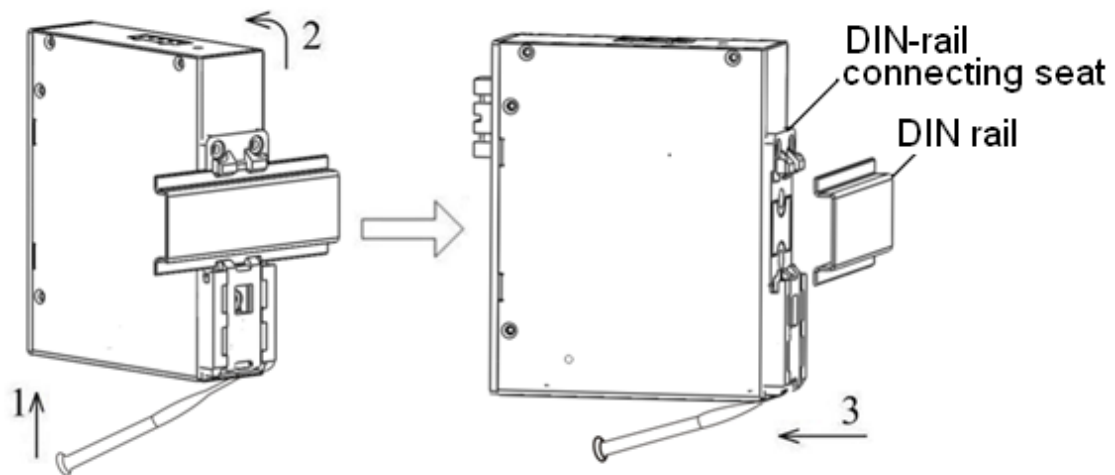

Figure 8 DIN Rail Dismounting
Step 1: Open the spring locking piece of the connecting seat with a screw driver, as shown in the left of Figure 8.